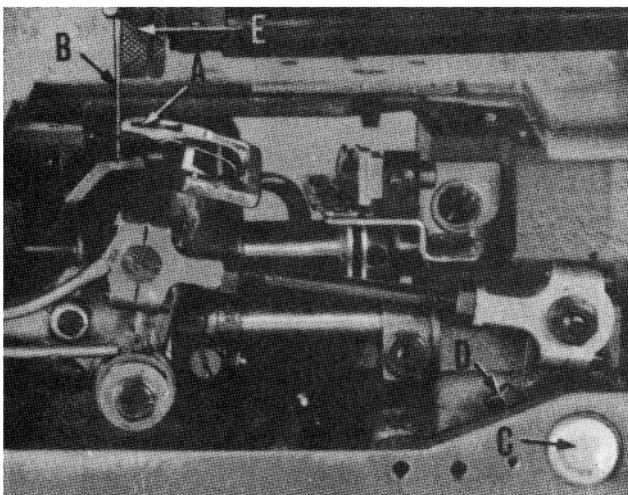
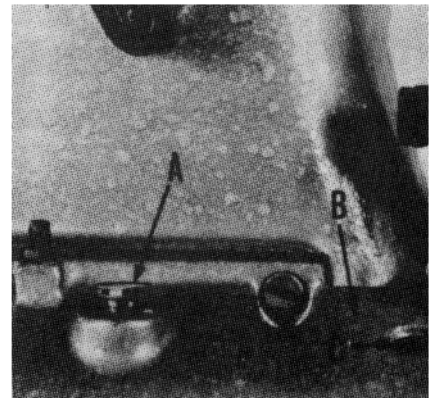

Fig. 8
Fig. 12
Turn the handwheel in the operating direction until the looper point (A, Fig. 8) moves to the left and is even with the left side of the needle (B). Note the height of the eye of the needle with respect to the looper point, then, turn the handwheel in the
Then, using the looper drive lever to take up the end play between the looper drive lever rocker shaft and its synchronizing stud, tighten the looper drive lever on the shaft using screw (D, Fig. 8).
On Styles 53100B and C, synchronize the upper roller feed (E, Fig. 8) with the lower feed dog. This is accomplished by removing the plug screw (A, Fig. 12) from the top of the housing (B) located at the rear right side of the machine. Then, after noting the direction the shaft journaled in the housing rotates, loosen the clamp screws in the gear hub, made accessible by removal of the plug screw. Turning this back shaft in its operating direction causes the top roller feed to start turning sooner, and turning the shaft backward causes the puller roll to start turning later.